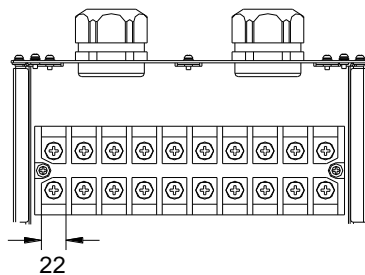

Figure 3-9 AC input terminal dimension (unit: mm)
3. The sectional area of the corresponding AC input cable is $25\text{mm}^2 \sim 35\text{mm}^2$. The width of the cable terminal should be not larger than 22mm, as shown in Figure 3-9.